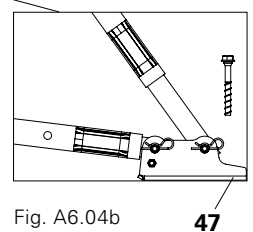

Fig. A6.04b
2. Fix Base Plate (47), e.g. with PERI Anchor Bolt 14/20x130. (Fig. A6.04b)